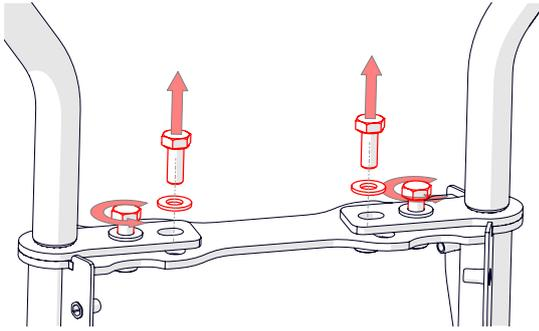

Fig.22F - Loosen outer bolts, remove inner bolts (top console removed for clarity).
5. Each handlebar is secured with two bolts. For each handlebar, loosen (but not remove) the outer bolt but fully remove the inner bolt [13 mm spanner] (Fig.22F).